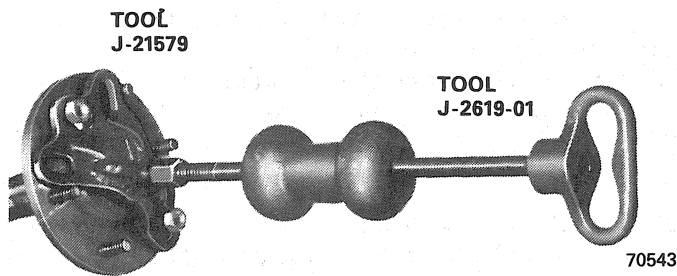

Fig. 2F-24 Axle Shaft Removal—Cherokee-Wagoner-J-10 Truck
- (1) Raise and support vehicle and remove wheels.
- (2) Remove brakedrum.
- (3) Remove nuts attaching support plate and retainer to axle tube flange using access hole in axle shaft flange.
- (4) Assemble Adapter Tool J-21579 and Slide Hammer J-2619-01, install tools on axle shaft flange, and remove axle shaft (fig. 2F-24).